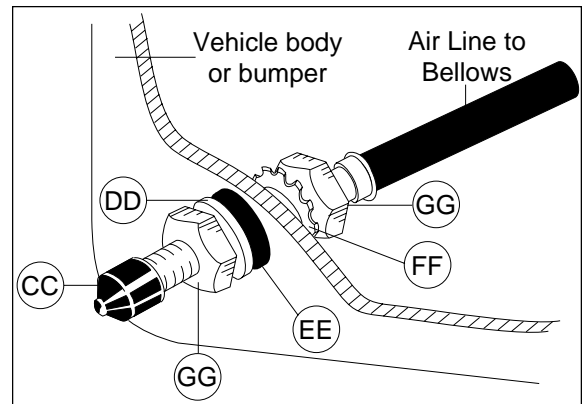

Figure 11
4. Place a  $\frac{5}{16}$ " nut (GG) and a star washer (FF) on the air valve. Leave enough of the valve in front of the nut to extend through the hole and have room for the rubber washer (EE), flat washer (DD), and  $\frac{5}{16}$ " nut (GG) and cap (CC). There should be enough valve exposed after installation - approximately  $\frac{1}{2}$ " - to easily apply a pressure gauge or an air chuck (Figure 11).
5. Push the inflation valve through the hole and use the rubber washer (EE), flat washer (DD), and another  $\frac{5}{16}$ " nut (GG) to secure it in place. Tighten the nuts to secure the assembly in place (Figure 11).